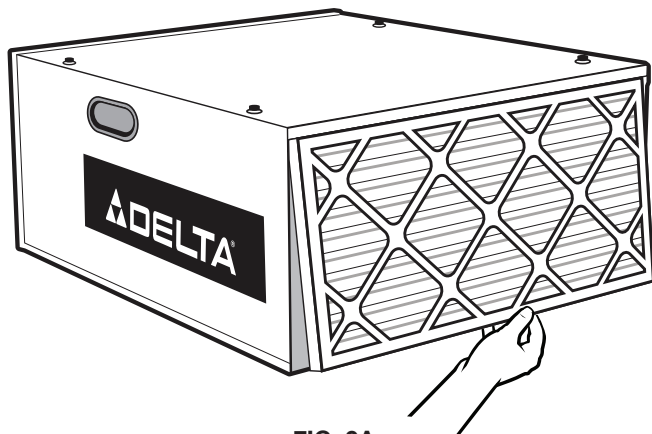
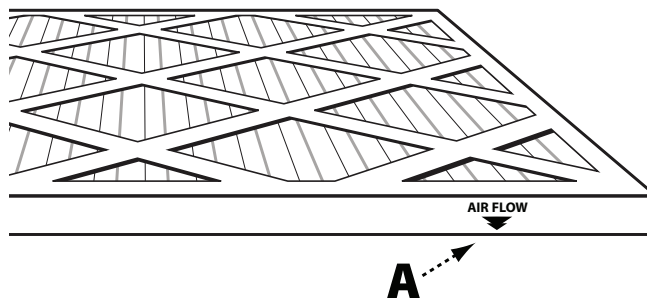

FIG. 9A
FIG. 9C
3. Remove the outer first stage filter (A) Fig. 9A by lifting and pulling out on the bottom of the filter. Replace the first stage filter depending on its condition. When you replace the outer filter, check to see if the filter has an air flow arrow (A) Fig 9C. If so, point the arrow inward. If the filter does not have an air flow arrow, install the filter either way.